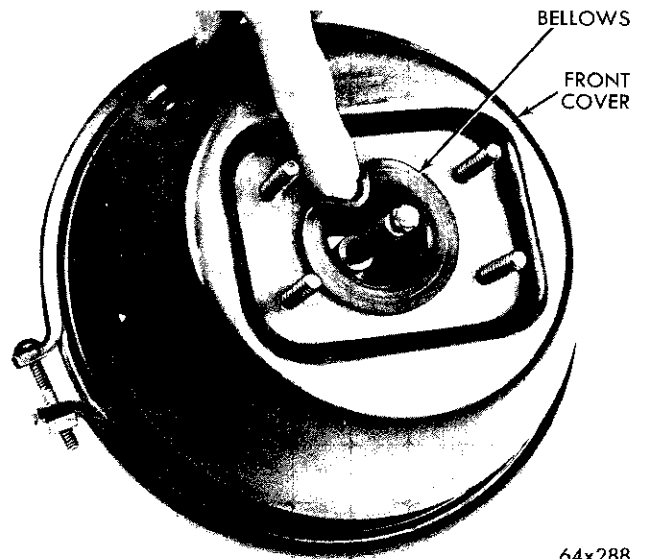
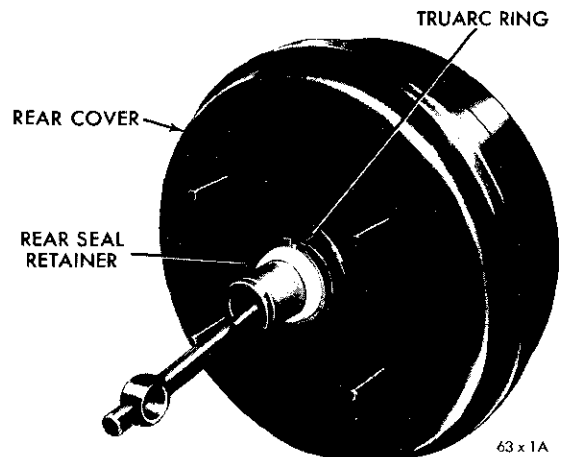

Fig. 35—Unseating the Bellows Seal
Fig. 36—Rear Seal Retainer
- (2) Scribe an aligning mark across the joint of the front and rear portions of the brake assembly. This will insure alignment on reassembly.
- (3) Remove the dust boot from the push rod.
- (4) Remove the filter, filter retainer and cover.
- (5) Working from the front of the unit, push the outer lip of the bellows assembly into the vacuum chamber (Fig. 35).
- (6) Remove the clamp band securing the front cover to the front of the rear housing.
- (7) Using a plastic or rubber hammer tap the outside edge of the rear vacuum housing and separate the housings.
- (8) Remove the large snap ring from the rear seal retainer (Fig. 36). Remove the diaphragm, valve